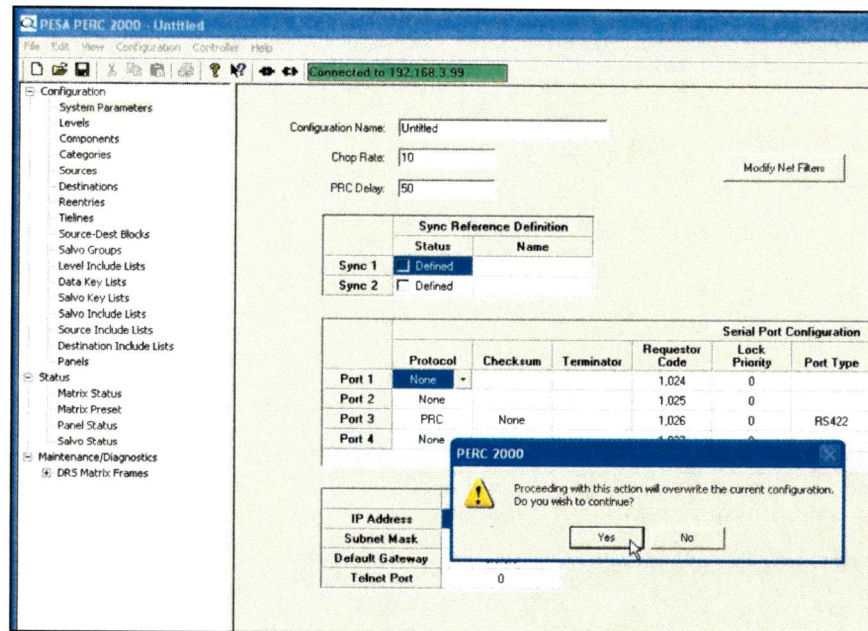

Figure 6. Caution Dialog Box
- ☐ 4. The dialog box shown in Figure 6 will appear. Click **Yes** to proceed with the configuration upload.